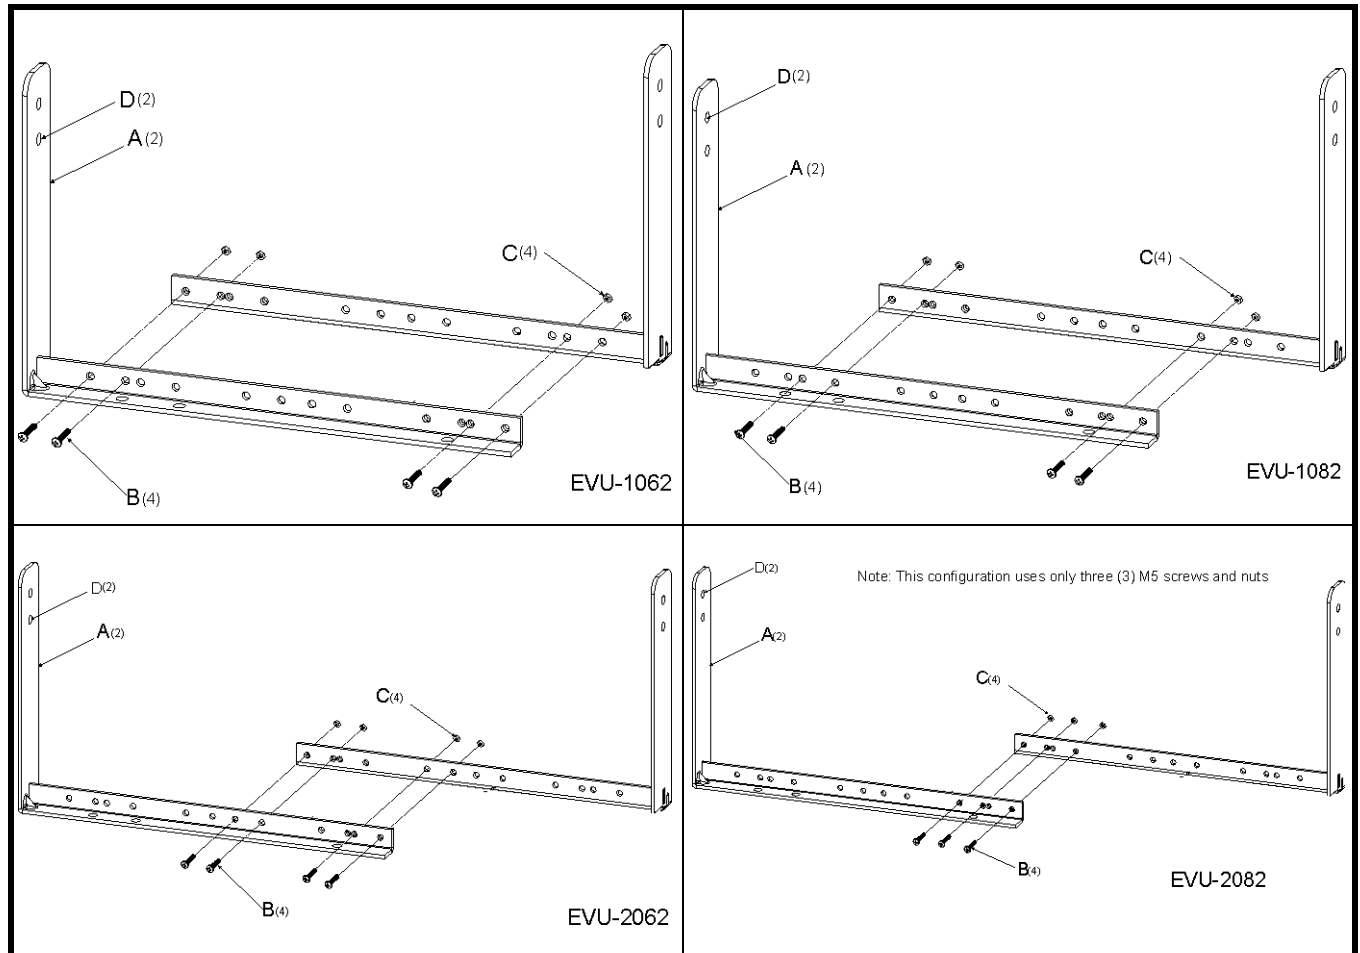

FIGURE 29. Universal U-Bracket Assembly
1. Orient the two (2) **bracket rails** (A) for assembly.
2. Using the diagram appropriate to your installation, insert four (4) **M5 pan head screws** (B) through the first and second bracket rails. See Figure 29.
NOTE: See Figure 29 for holes specific to the system being mounted.
NOTE: For mounting to a wall, use two (2) 5/16-inch fasteners (recommended) or use two (2) 1/4-inch fasteners (minimum requirement) including two (2) washers. See Figure 29 for hole locations.